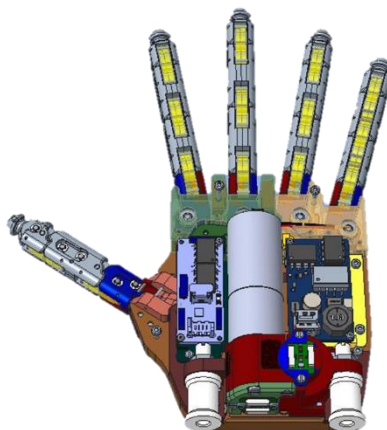

Figure 26: correct SoftHand Pro terminal device zero position
6. *qbadmin -z*: it is used to set the encoders position as zero. E.g. zero position, conventionally in *SoftHand Pro*, corresponds to the position in which each *SoftHand pro* terminal device finger is on the same plane of the *SoftHand pro* terminal device palm. If zero position correspond to a different fingers alignment (Figure 26), first of all, fingers must be moved in correct position by *qbadmin -s* command (DO NOT move them manually when DC motor is deactivated since *SoftHand Pro* device motor is not back-drivable). If *SoftHand Pro* terminal device is in a different position, this will be defined as the new zero position. When this command is launched, the routine starts to return the current value of the encoder, pressing CTRL+C two times to start the procedure and to set the position. *qbadmin -z* is also used when you switch the control input mode in handle, indeed in this case it is recommended to reset the encoder value to align it to the handle encoder measurement.